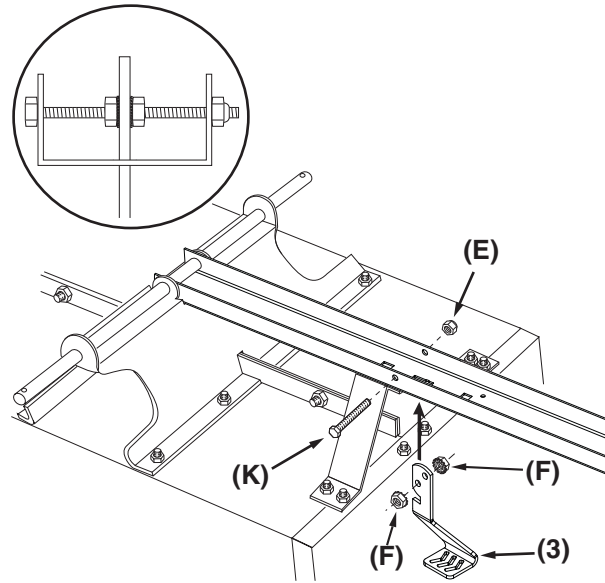

Figure 9
**STEP 9 (SEE FIGURE 9):** Install the foot pedal (3) by inserting a 5/16" x 4" hex bolt (K) through one side of the tongue, a 5/16" SEMS hex nut (F), the foot pedal (3), a 5/16" SEMS hex nut (F), and the tongue. Secure with a 5/16" nylock nut (E). Be sure to center the foot pedal on the bolt between the two SEMS nuts as shown below.